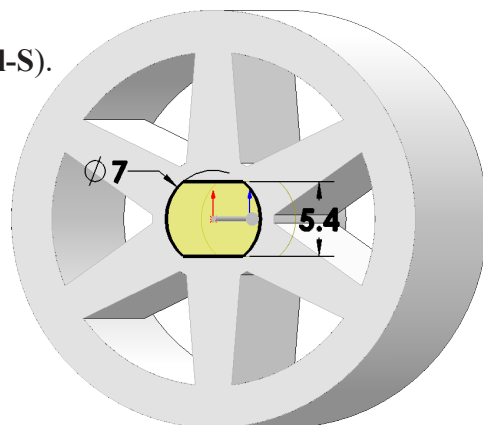

Fig. 37
Step 13. Rotate view to **view depth of cut**, Fig. 37. Use **Left Arrow key**  once.